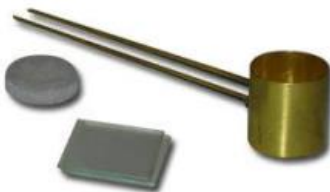

Fig.4.2 Soundness of cement
4.2 Determine the soundness of cement refers to the stability of the volume change in the process of setting and hardening and is ensured by limiting the quantities of free lime, magnesia and sulphates as these compounds undergo a large change in volume as shown in Fig.4.2.